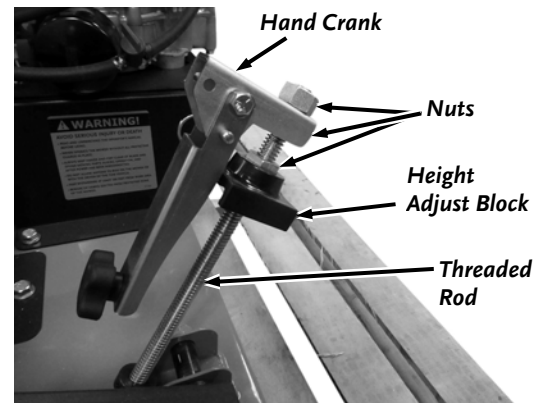

Figure 7
4. Remove the three Nuts, Hand Crank and Height Adjust Block from both threaded Rods (**Figure 7**).